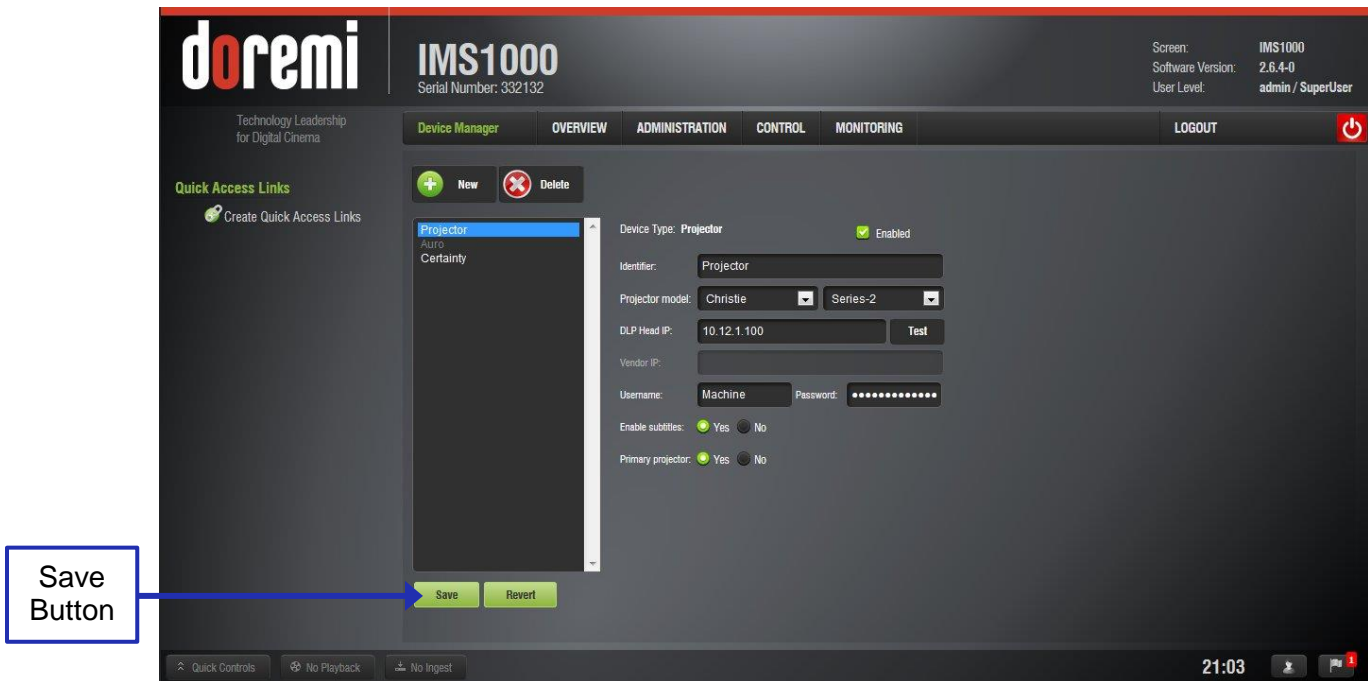

Figure 85: Projector Added
- Populate the projector parameters that appear (Figure 85).
- Click the Save button (Figure 85).